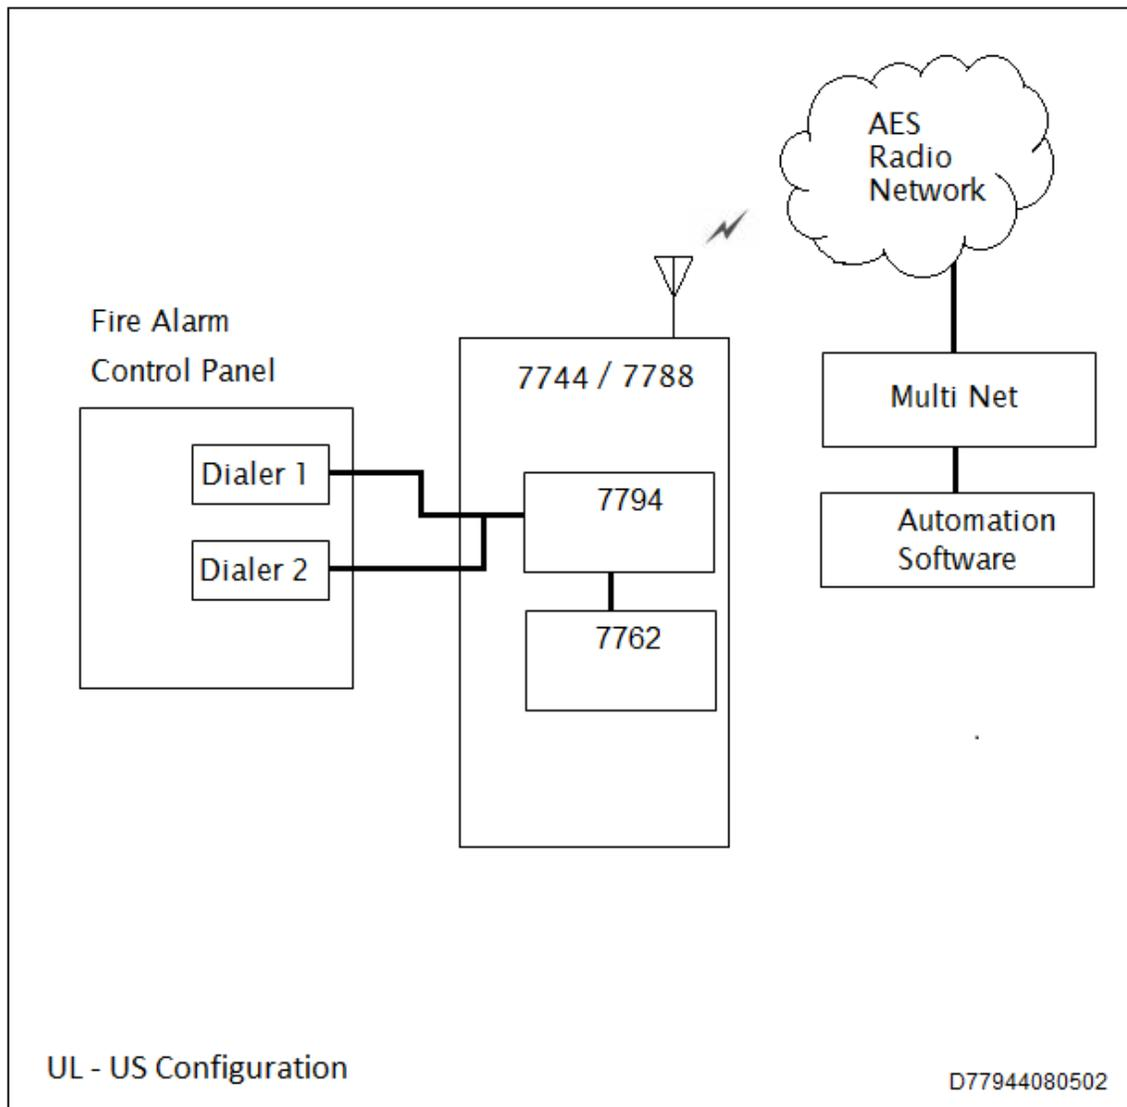
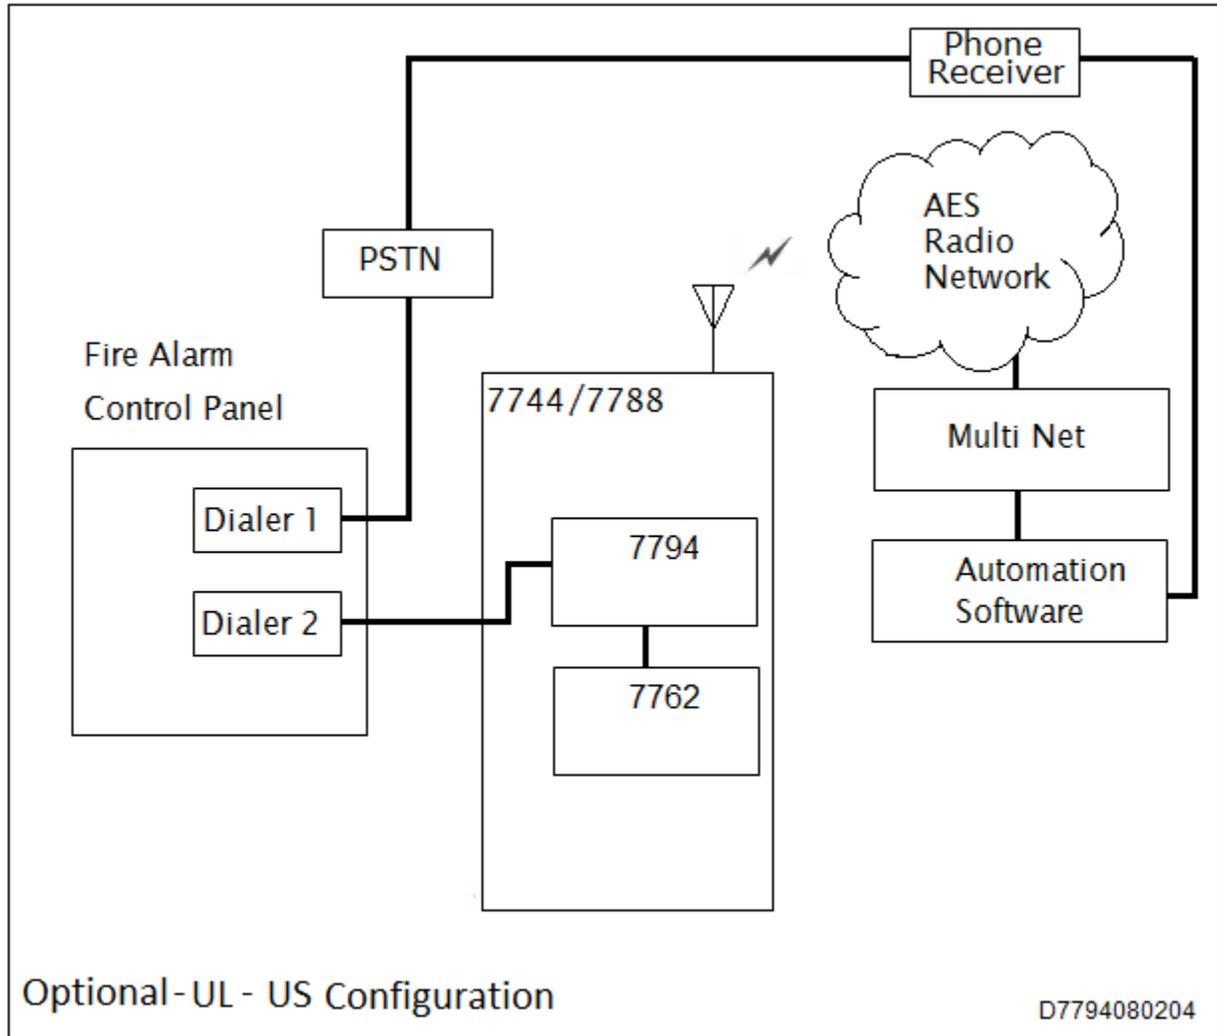
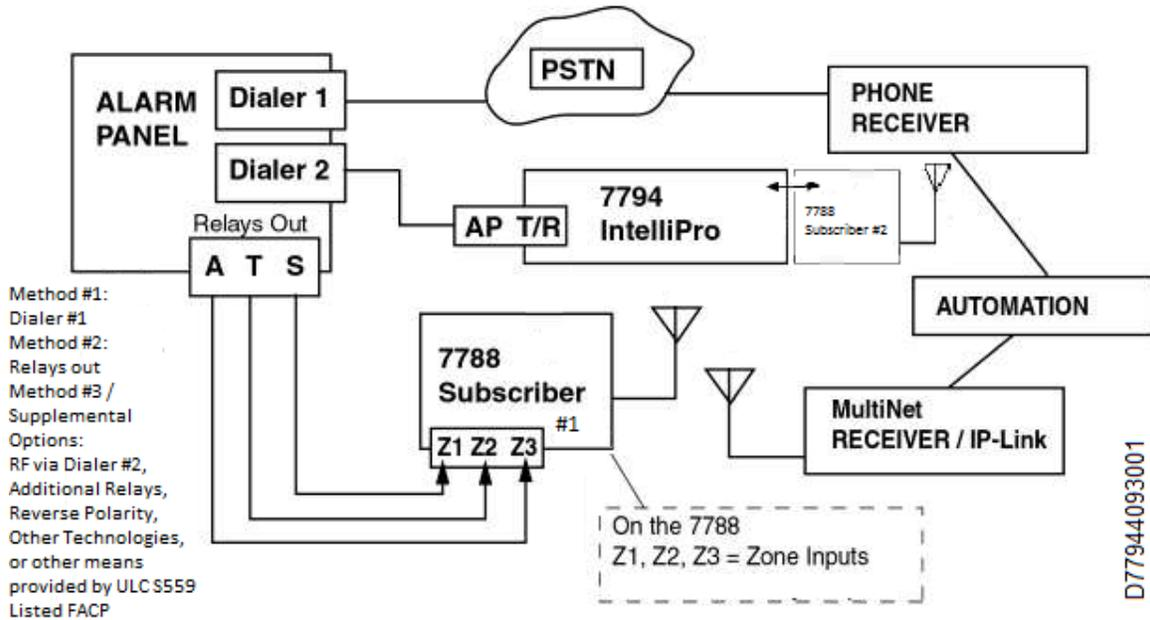

Figure 5.
Figure 5A.
Figure 6D.
**The 7794 can provide voltage to both telephone line connections if they are connected together in parallel with TIP to TIP and RING to RING as shown in Section 3, Figure 5 and Section 4, Figure 6D.**
When mounted in a subscriber enclosure and connected to the Fire Alarm Control Panel dialer, the 7794 delivers alarm messages to the central monitoring station as shown in Figure 5 and Figure 5A below. The 7794 is supervised by the 7762 using a ‘heartbeat’. See the 7762 Install Manual AES P/N 40-7762 for detail. **NOTE: The 7794 IntelliPro and subscriber must be connected to the FACP within the same room and in no more than 20 ft. of conduit.**
When mounted in a subscriber enclosure and connected to the Fire Alarm Control Panel dialer, the 7794 delivers alarm messages to the central monitoring station as shown in Figure 5 and Figure 5A above. **NOTE: The 7794 IntelliPro and subscriber must be connected to the FACP within the same room and in no more than 20 ft. of conduit.**
- 3) Wire the Zones of the FACP into the 7788F-C #1 as depicted above in Figure 6D.